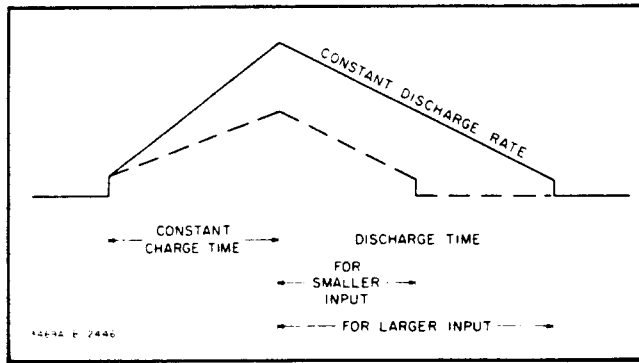

Figure 4-13. Dual-Slope Integration.
**4-73. Analog Section.** The Analog section uses a dual-slope integrator to perform the voltage to period conversion. When a measurement is initiated by the Switch Drive signal from the Control Logic section, the integrator charges toward the input voltage for 1/60 second as shown in Figure 4-13. The integrator is then discharged at a fixed rate toward a reference voltage. Since the discharge rate is constant, the discharge time is proportional to the dc input voltage.